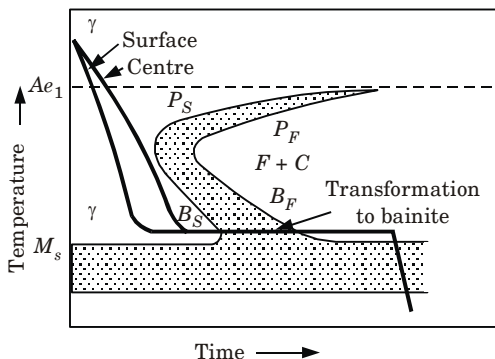

Fig. 4.14.2. Heat treatment cycle for austempering.
5. Heat treatment cycle for austempering is shown in (Fig. 4.14.2).